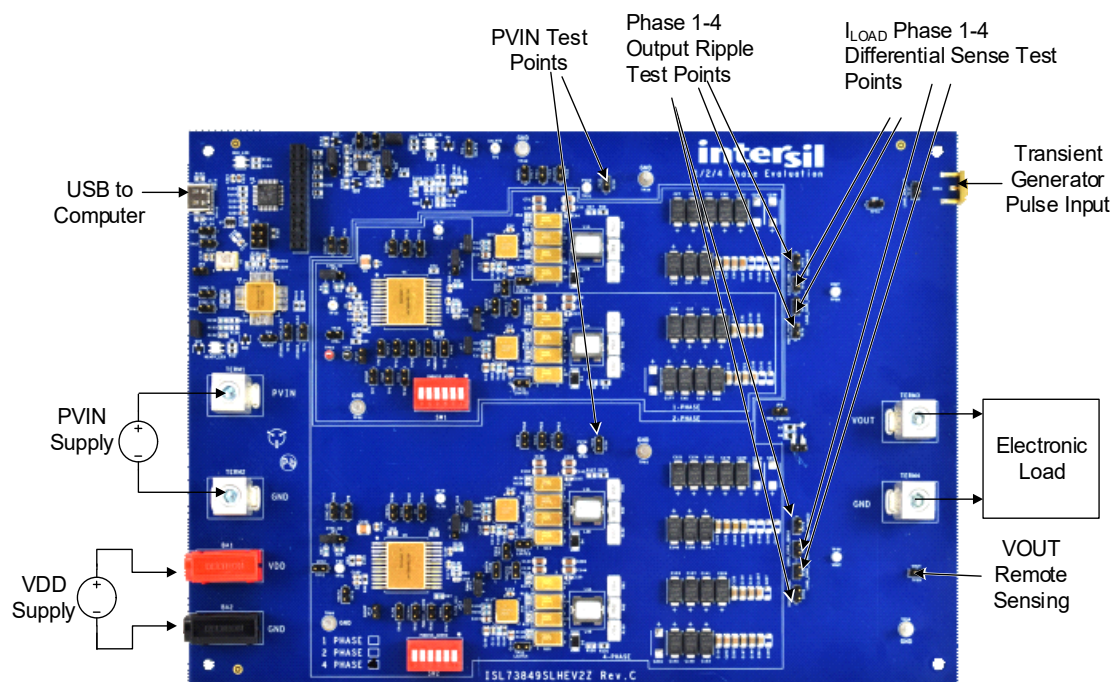

Figure 3. ISL73849SLHEV2Z4 Board Setup
7. Connect the provided USB to the computer and the board as shown in Figure 3.
8. Apply a 12V voltage supply to the PVIN metal banana plug connectors as shown in Figure 3. To monitor PVIN on the board, use TP27 or TP65. TP27 is closer to Phase 1 and 3, TP65 is closer to Phase 2 and 4.
9. Apply a voltage between 5V and 13.2V to the VDD banana connectors as shown in Figure 3.
10. If required, a resistor or electronic load can be connected to the VOUT metal banana plug connectors as shown in Figure 3. The output voltage regulation point can be monitored using the TP29 test jumper.